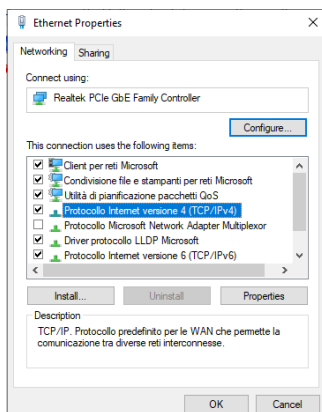

Fig.6
7. From the Ethernet properties menu (Fig.6), select "Internet Protocol version 4 (TCP / IPv4) and press the "Properties" button which will be enabled in the meantime. The screen in Fig. 7 will open.